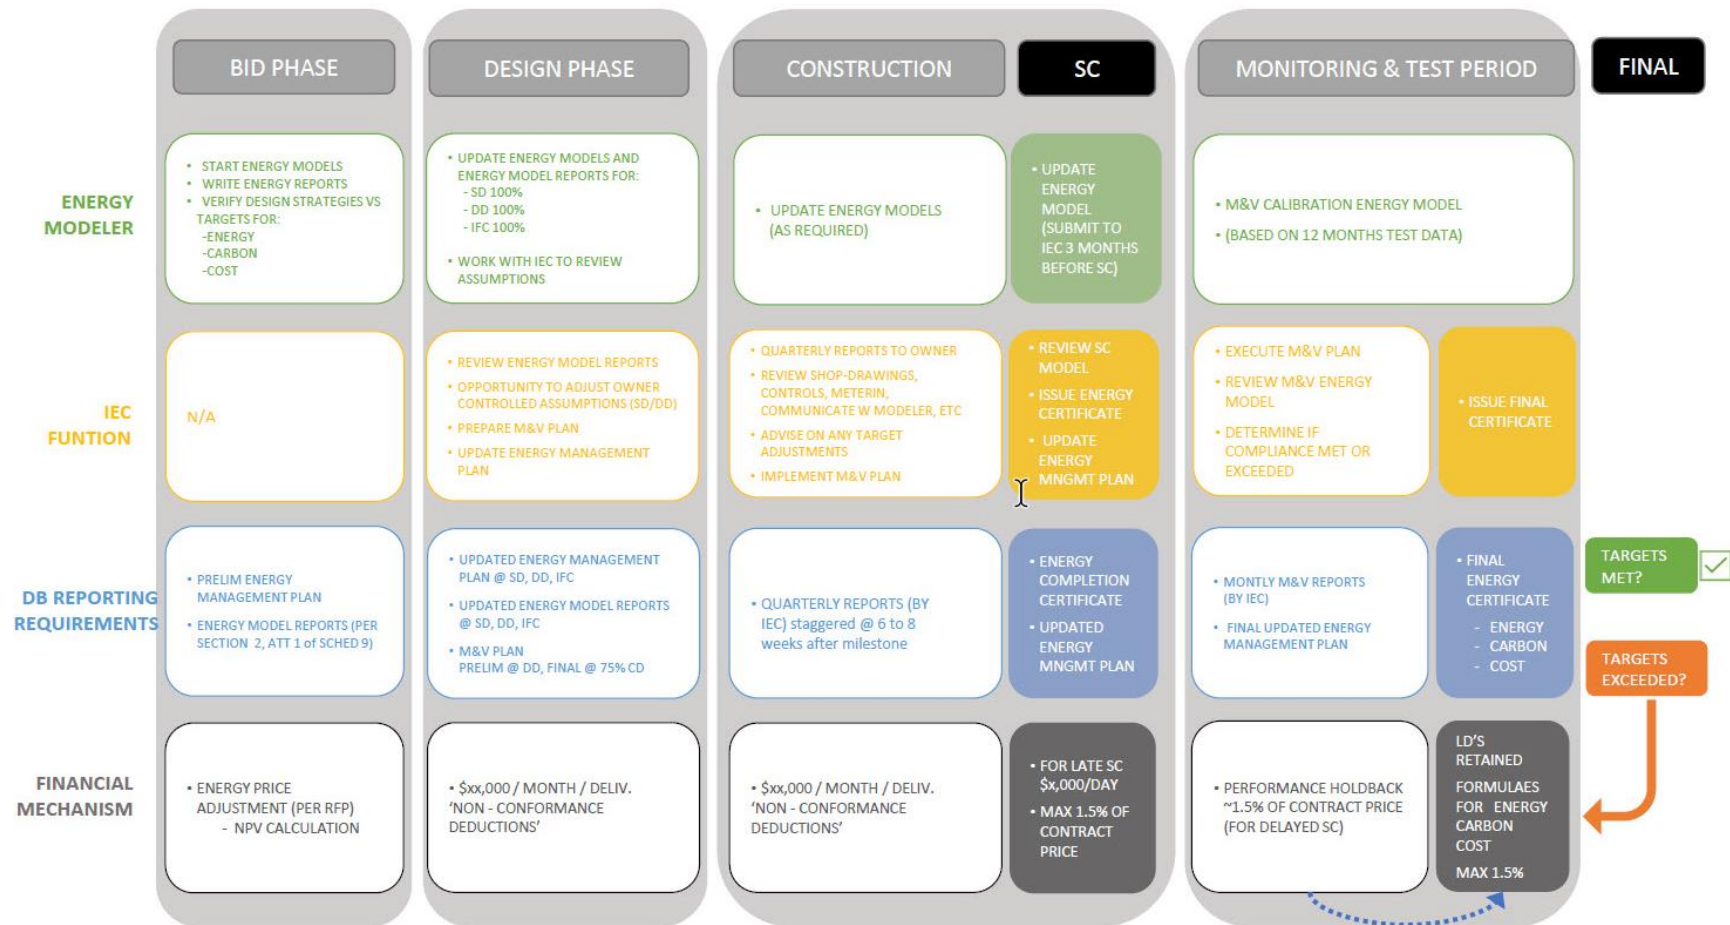
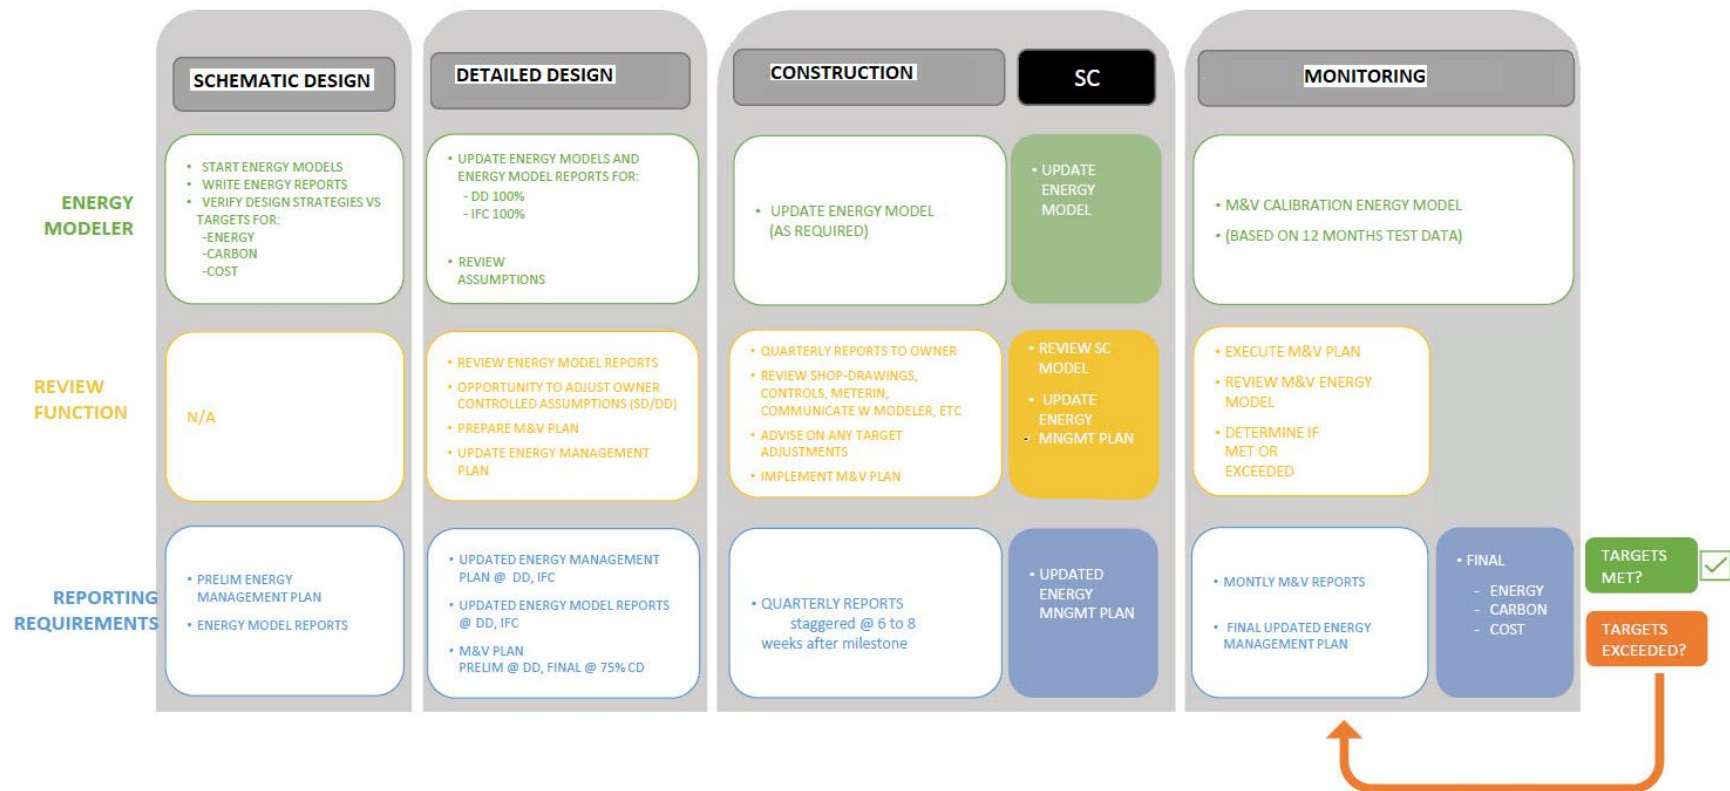

Figure 1: Overview of Accountability Mechanisms Example (Acute Care Facility, DB Delivery Model)
Figure 2: Overview of Accountability Mechanisms Example (Long Term Care Facility, CM Delivery Model)
In general, the approach used to date was developed primarily from experience with Acute Care hospitals that were designed and built using a Public Private Partnership (P3) or Design Build (DB) delivery model (see Figure 1). However, the current context of new construction for the healthcare sector in British Columbia includes construction of Long Term Care (LTC) facilities and is favouring other delivery models such as Construction Management (CM) and an Alliance model. An alternative example of how the core approach can be adapted to a Construction Management (CM) delivery model for a LTC facility has been explored (see Figure 2). This will be refined, as we gain experience with Construction Management and Alliance project delivery models.
Figures 1 and 2 provide a visual summary of an overall approach including key roles, tasks, deliverables and financial mechanisms organized by major project phase.
Key changes between Figure 1 and Figure 2